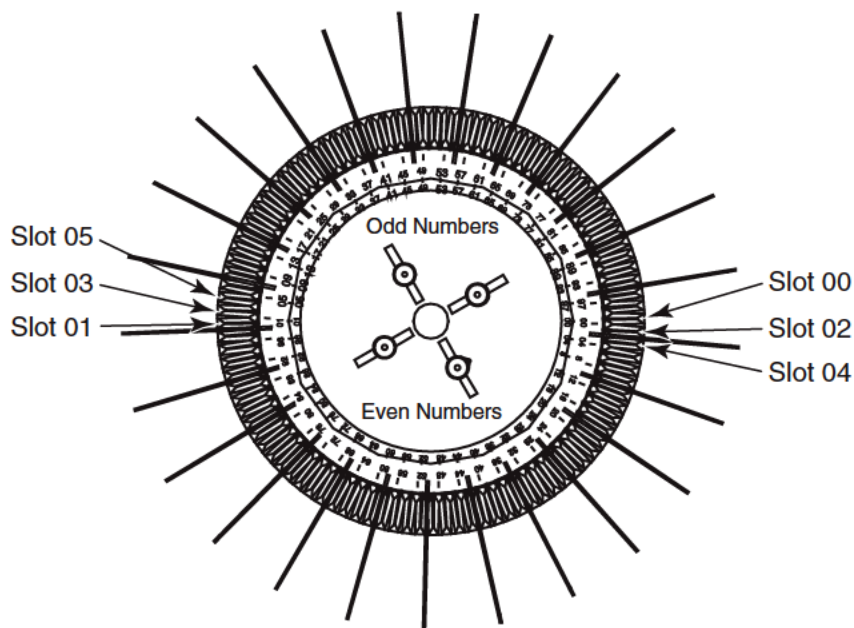

Figure 3-2. Loading the Molded CD Magazine
4. Slide the old CD out of the slot and slide the new CD into the slot (*see Figure 3-2*) with the label to the right. Write the disc number on a note pad.
For example, on the even numbered half of the magazine, slots 00, 04, and 08 are labeled, and the slots in between – 02 and 06 – are not, as illustrated in Figure 3-2.